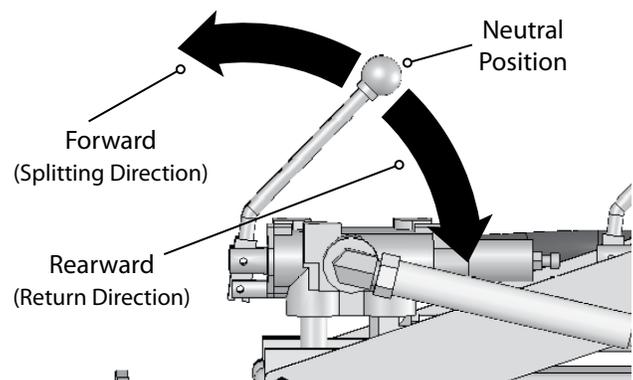

Figure 17
4. Move control lever forward to extend the hydraulic cylinder all the way. (It is normal for the cylinder to not move smoothly as it purges the air from the system.) **SEE FIGURE 17 AND/OR 18.**
5. Move control lever to the return position until ram is retracted fully. **SEE FIGURE 17 AND/OR 18.**
With the correct amount of hydraulic fluid in the system, operate the cylinder ram all the way into the forward direction and all the way in the return direction. **SEE FIGURE 17 AND/OR 18.** Check that the ram moves smoothly without jerking. Check that there is no leaking of fluids at component ports, fittings, or hoses. If leaking is found, tighten fittings or clamps until leaking goes away. If leaking doesn't go away, contact Earthquake Customer Service (800-345-6007 M-F 8:00-5:00 PM CST, or e-mail info@ardisam.com).
3. Depress the control valve handle forward toward the log so that the cylinder will drive the wedge into the log. Extend the cylinder until the log splits or the wedge travels to the end of its stroke. If the log has not completely split after the cylinder has reached the end of its extension, retract the cylinder. Retract the cylinder by pulling back on the control valve handle. **SEE FIGURE 17 AND/OR 18**